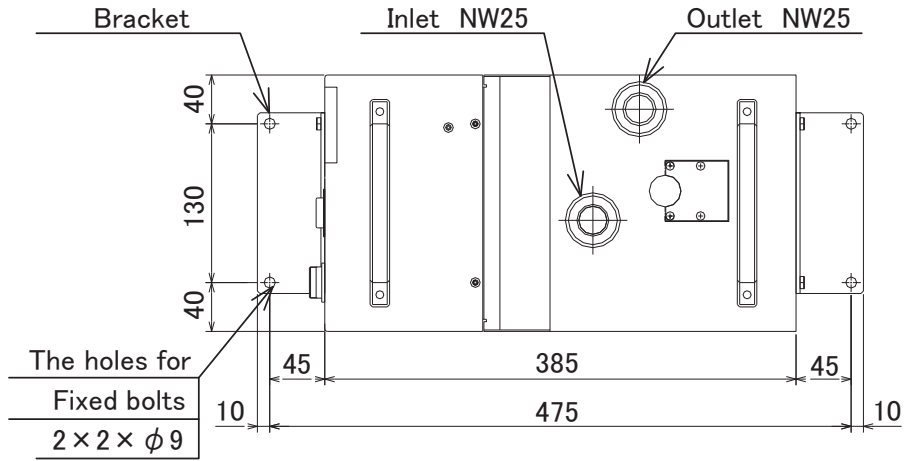
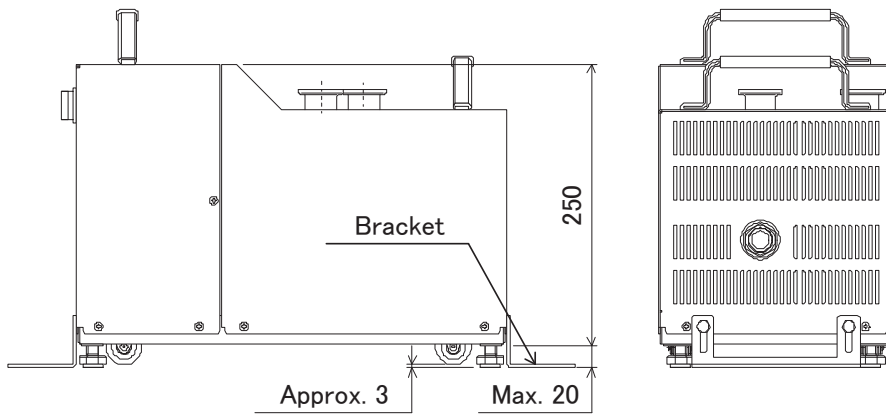

Fig.4.1 Pump fixation position
Fig.4.2 How to fix the pump with casters and adjusters
- *Please fix the pump with appropriate bracket. (Fig.4.1, Fig4.2)